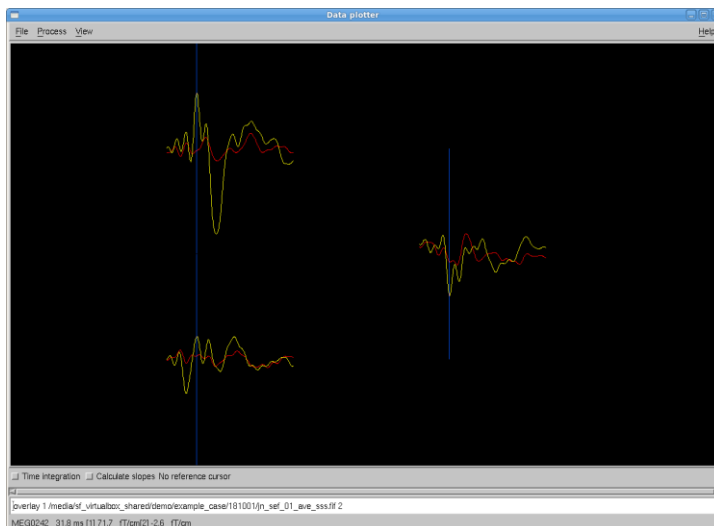

Figure 13: On-line average of SEF. Primary response is typically around 30ms (N20m or P30m).
6. Monitor the on-line averages in Data Plotter, **shift + left mouse and drag** to zoom in, primary response should be approximately 30 ms (see Figure 13).